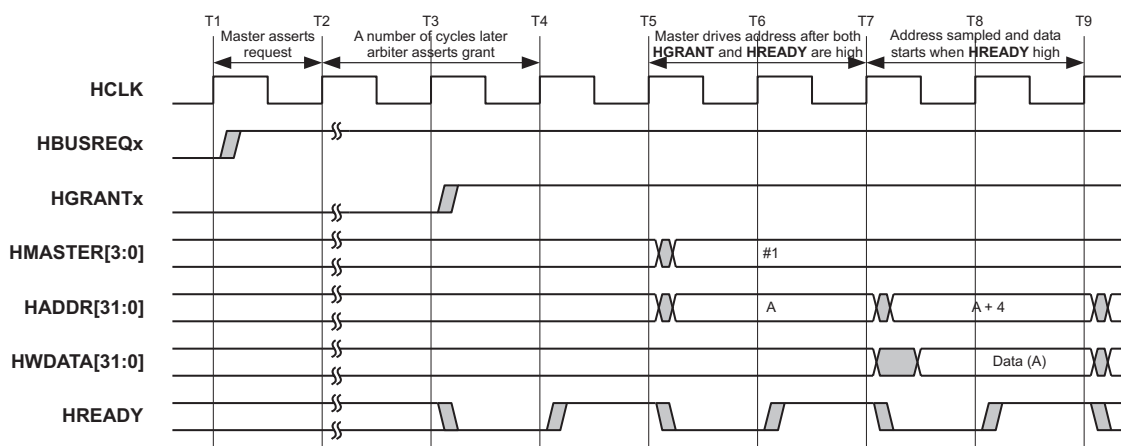

Figure 14: Granting Access with Wait States
- Granting access with wait states (Figure 14 on page 40)